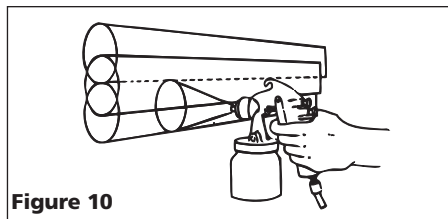

Figure 10
5. Overlap strokes just enough to obtain an even coat (See Figure 10).